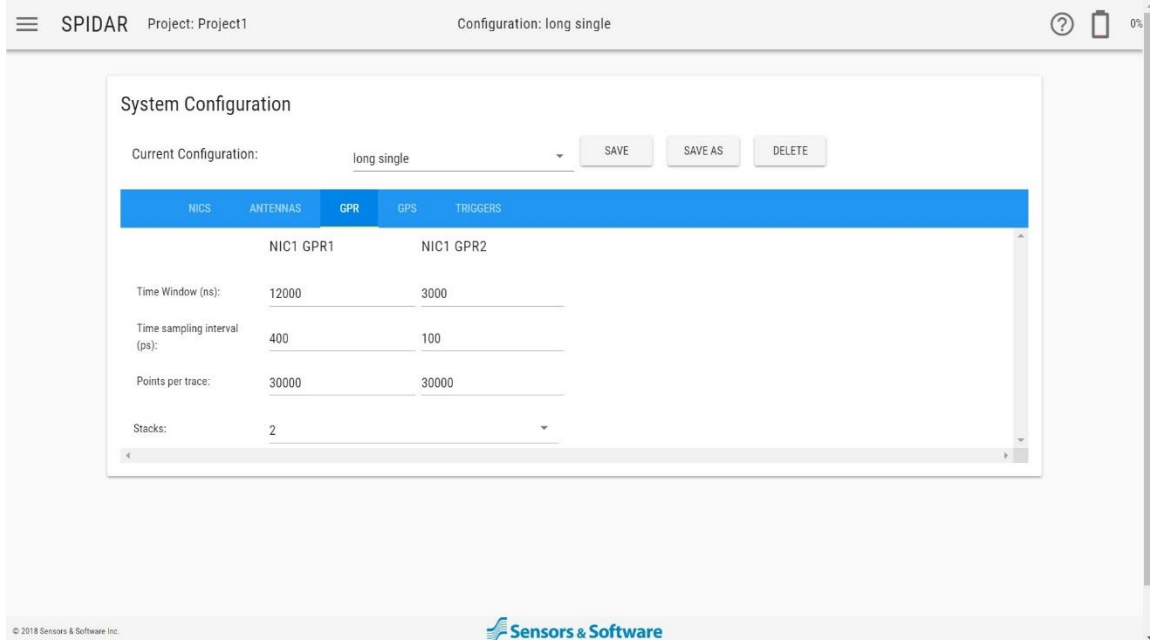

Figure 4-20: GPR1 & GPR2 must have the same points per trace
- Both GPRs must have the same number of points per trace (time window / sampling interval). See Figure 4-20.